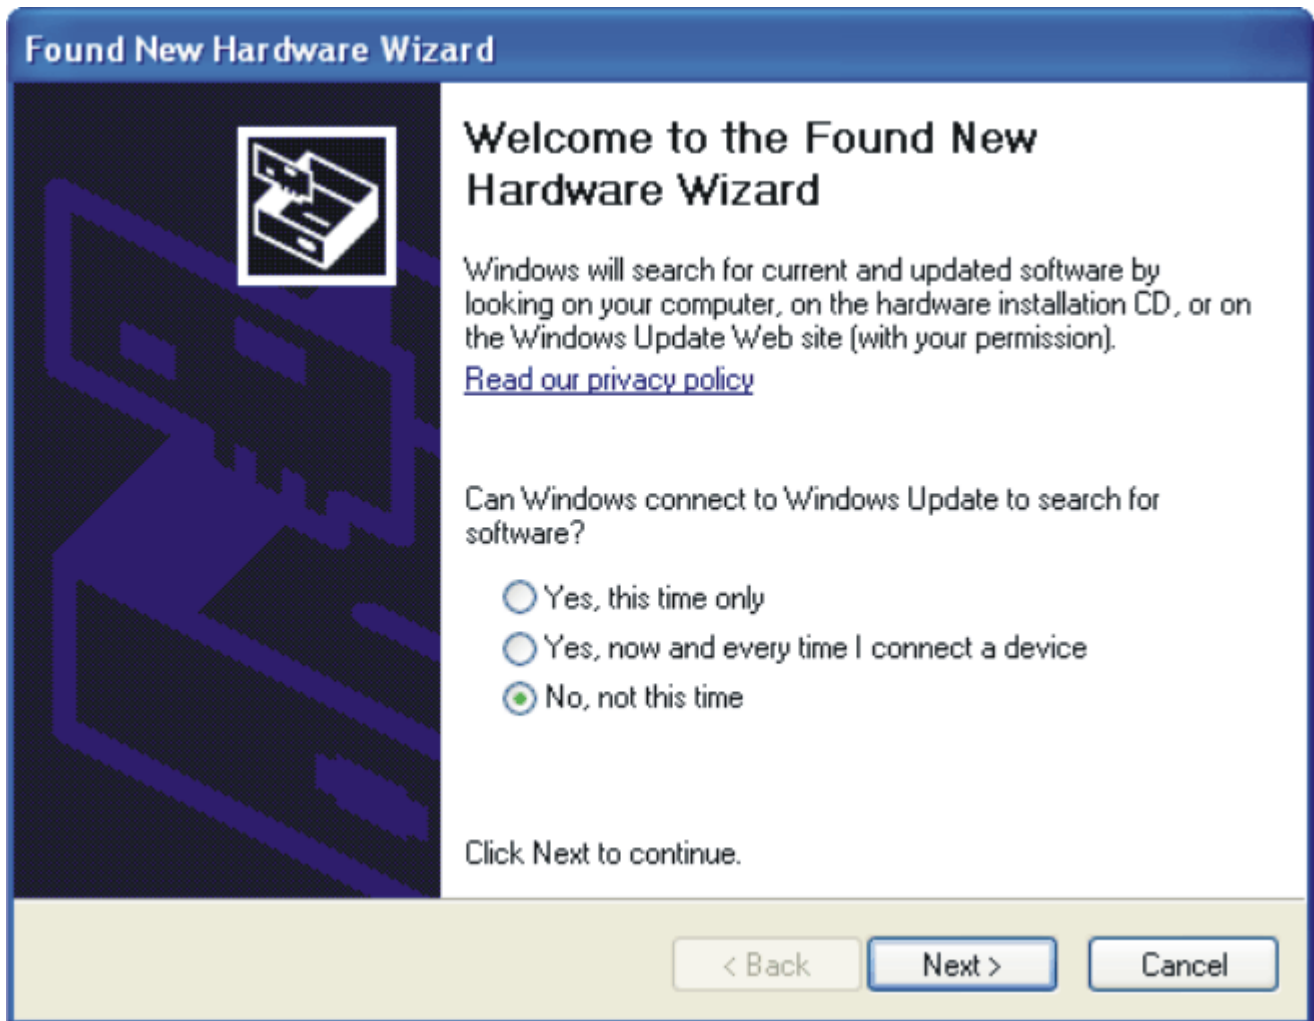
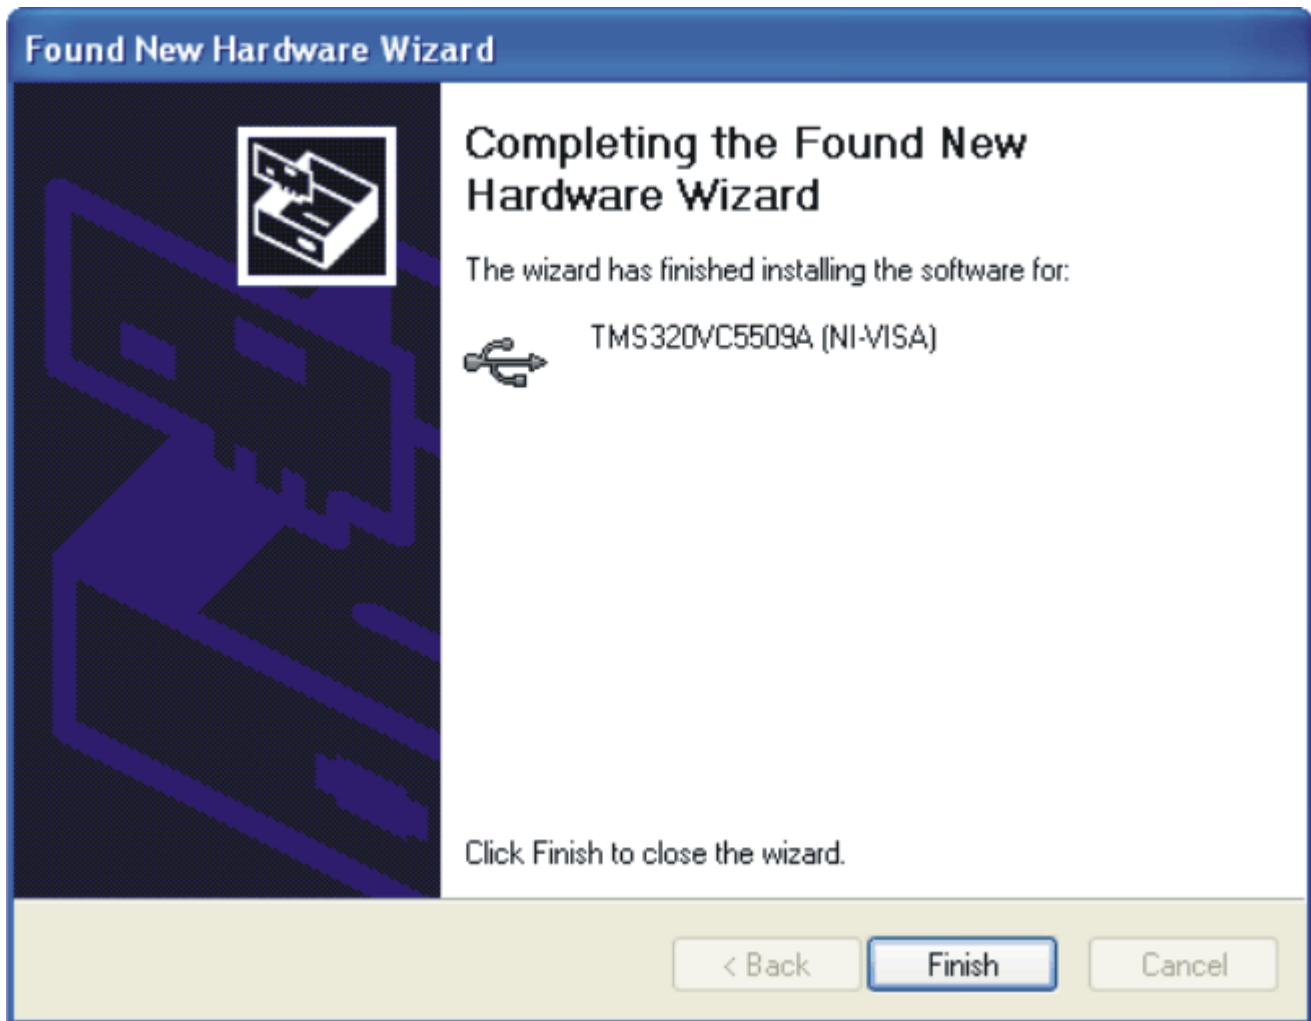

Figure 8. NI-VISA Driver Installation
Figure 11. NI-VISA Driver Complete Installation
2. The computer should recognize new hardware and begin installing the drivers for the hardware. Figure 8 through Figure 11 are provided for reference to show the installation steps.
- For the first screen, Figure 8, it is not necessary to search for the software; it has already been installed to your PC.